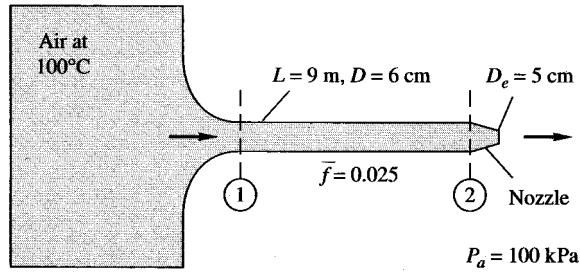

Fig. P9.91
**9.91** Air flows steadily from a tank through the pipe in Fig. P9.91. There is a converging nozzle on the end. If the mass flow is 3 kg/s and the flow is choked, estimate (a) the Mach number at section 1; and (b) the pressure in the tank.